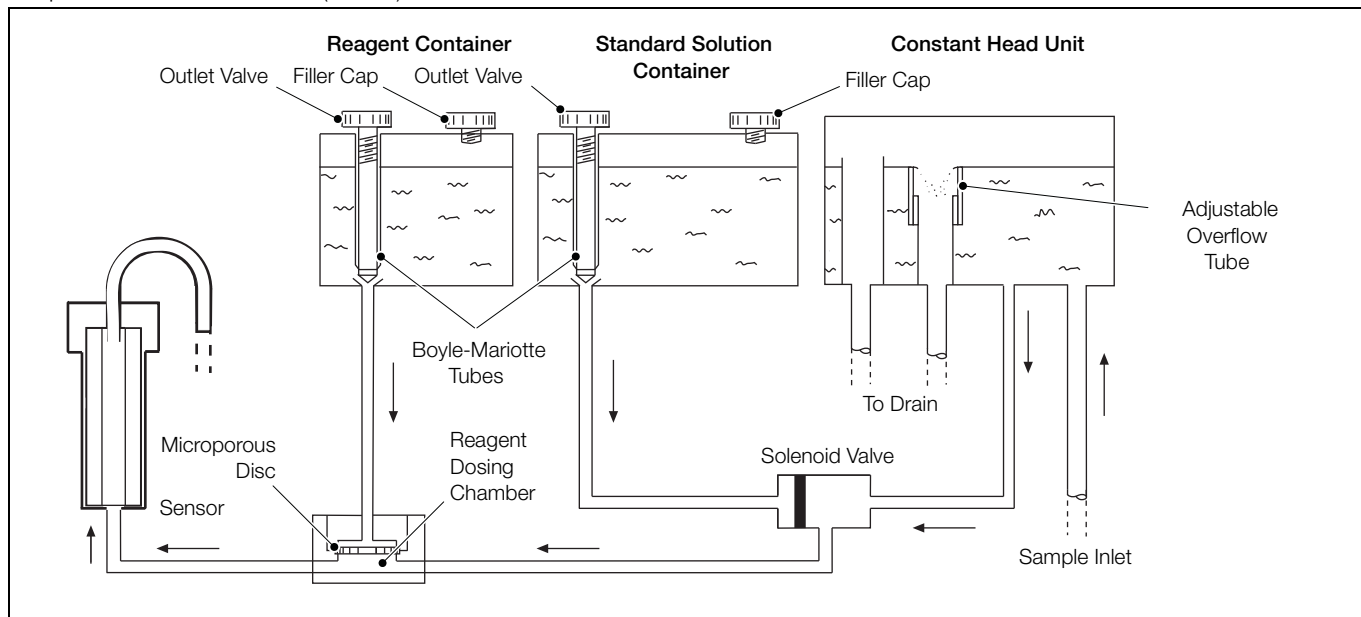
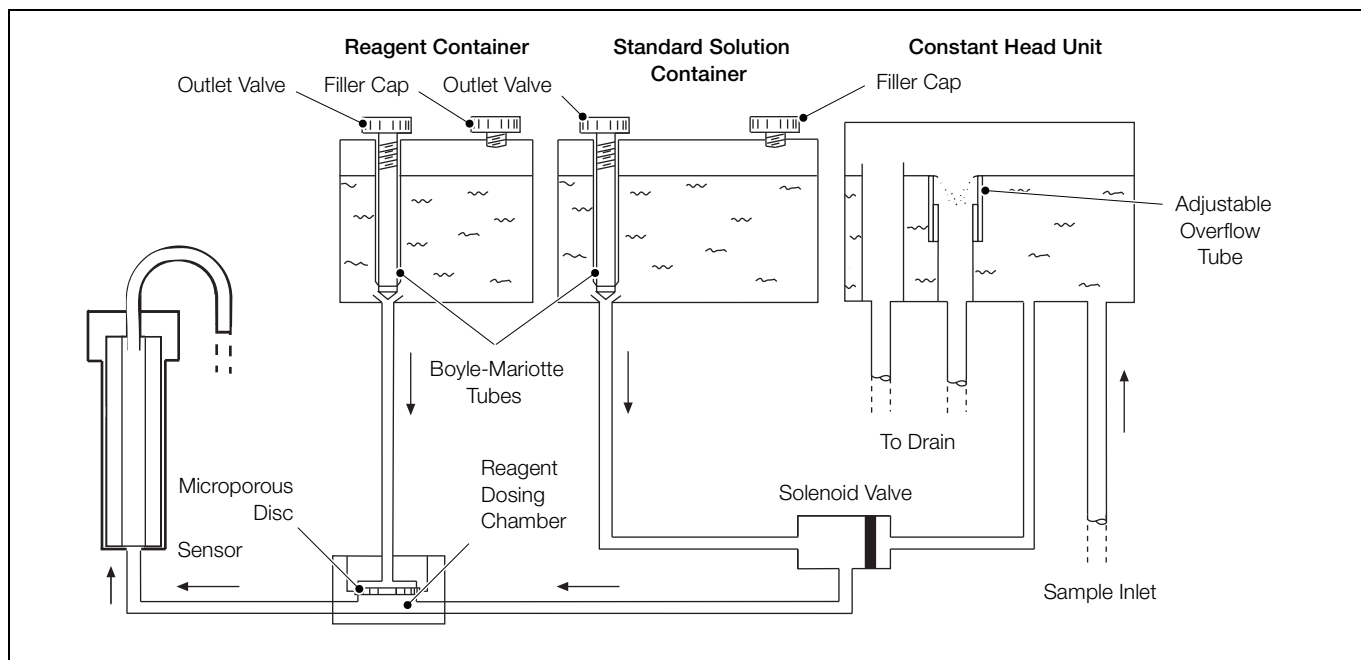

Fig. 5.1 Sample System During Normal Operation – Flow Diagram
Fig. 5.2 Sample System During Calibration Phase – Flow Diagram
Overflows from the constant head unit and the sensor drain to a tundish in the bottom of the case. Normal operation flow paths are shown in Fig. 5.1, page 15 and, for the calibration sequence, in Fig. 5.2, page 15.
1. Open the sample isolator valve to the sensor unit. Normal operation flow paths are shown in Fig. 5.1, page 15 and, for the calibration sequence in Fig. 5.2, page 15.